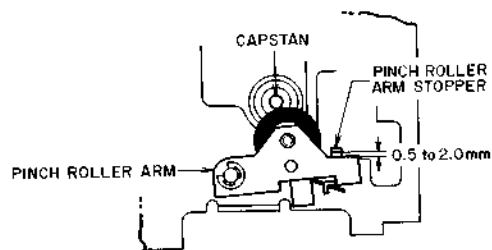

Fig. 26 Gap Between Pinch Roller Arm and Stopper
4. ADJUSTMENT OF GAP BETWEEN THE PINCH ROLLER ARM AND STOPPER (Refer to Fig. 26)